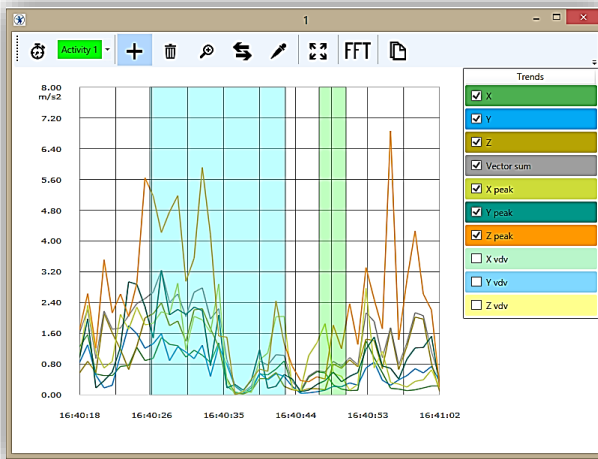

Figure 24: Graph window- With 2 activities defined.
3. Drag and mark the area. (See figure 24)